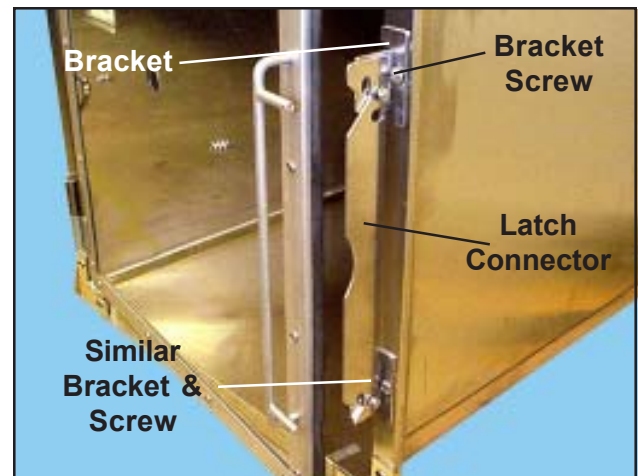

Figure 9. Door Latch and Adjustments
**Opening and Closing** The door is held closed by a self-actuating latch connector (Figure 9). As the door is closed, the latch connector rides up and over the handle and then falls down, locking the door closed.
**Latch Adjustment** If the latch connector and door are not properly adjusted, you may have difficulty in opening the door, and it may not lock automatically when closed. To adjust the door, loosen the bracket screws (Figure 9), move the brackets slightly up or down as needed, then retighten the screws. Try the door again, and repeat the adjustment until the latch connector and latch work together smoothly.